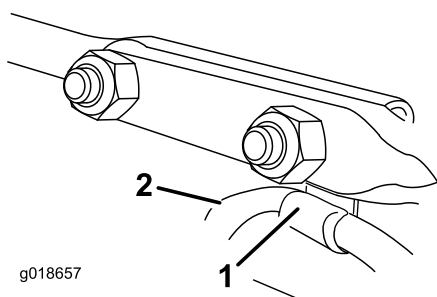

Figure 17
6. Insert the cable clip that supports the deflector cable under the head of the forward carriage bolt, and secure the carriage bolts with locknuts from the loose-parts bag (Figure 17).